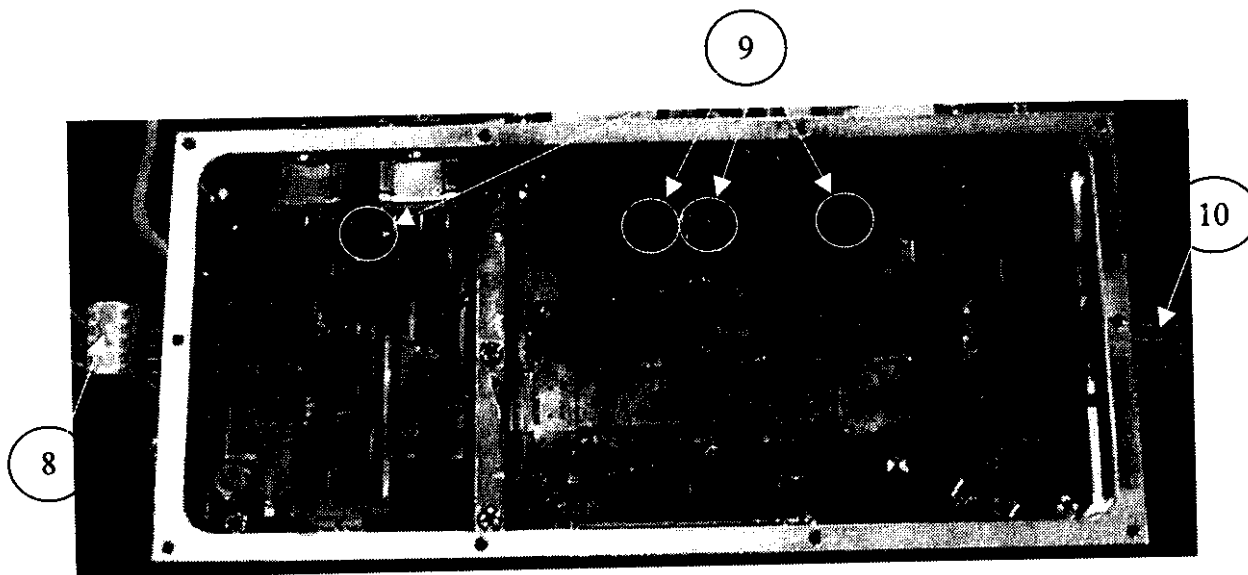

FIGURE 13-0062-2
of pre-correction can be set and stored into the 34-015 board. All voltages that control pre-correction externally reach the module through connector P2 (10). Refer to figures 13-0062-1 and figure 13-0062-2 for numerical references.